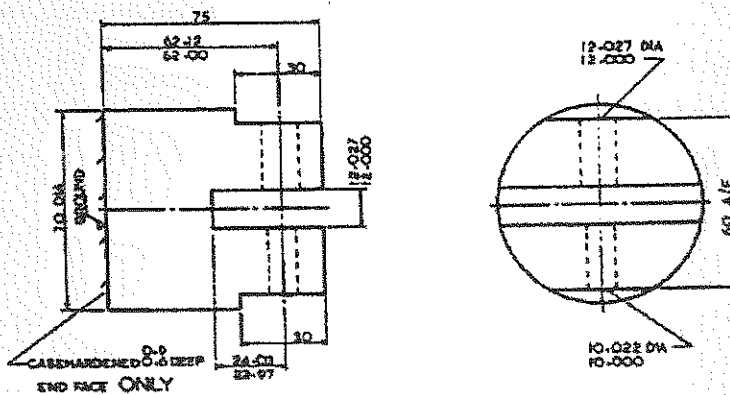

Fig. 10 Link Stud Mild Steel
- (b) The link stud shown in Figure 10 is to be manufactured in batches of 100.